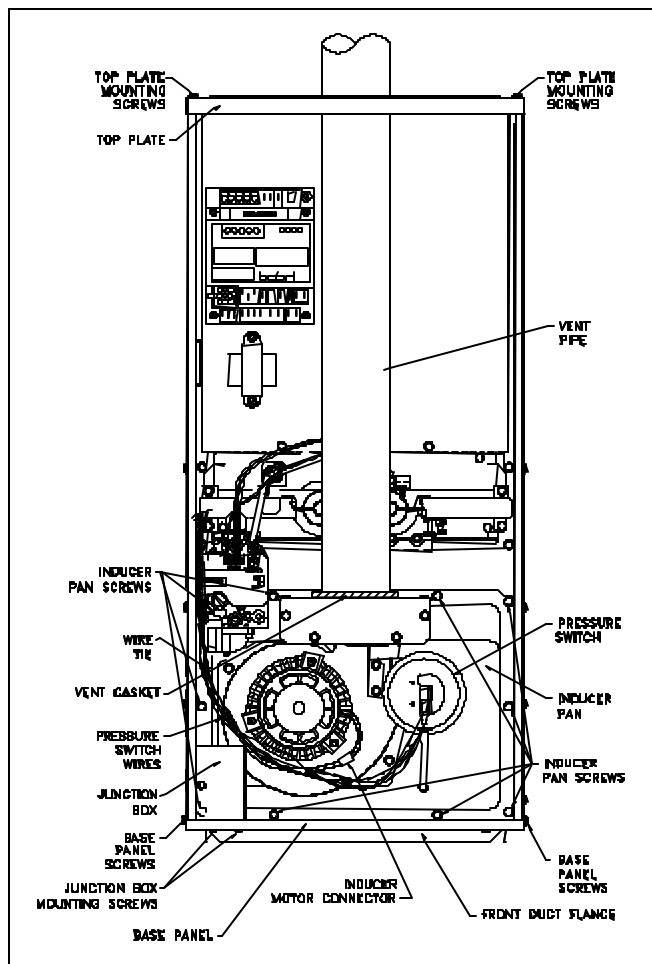

Figure 5. Downflow Configuration.
5. Rotate inducer/pan assembly 180 degrees as shown in Figure 5. Line up mounting holes and replace the ten screws in inducer pan.
- a) Purple wire (#7) to pressure switch common (C) terminal.
- b) Blue wire (#3) to pressure switch normally closed (NC) terminal.
- c) Red/yellow wire (#12) to pressure switch normally open (NO) terminal.